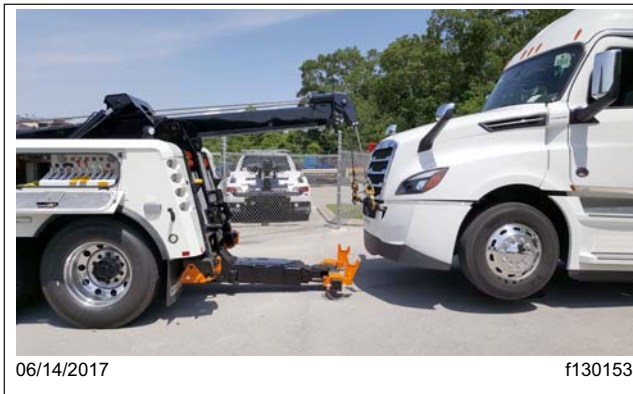

Fig. 23.10, Backing the Tow Truck with Lift Adaptors on the Crossbar
8. Use mid-rise or high-rise forks, or lift adaptors (part number 0200020) on the crossbar to provide clearance for the aerodynamic bumper. See Fig. 23.9 and Fig. 23.10.